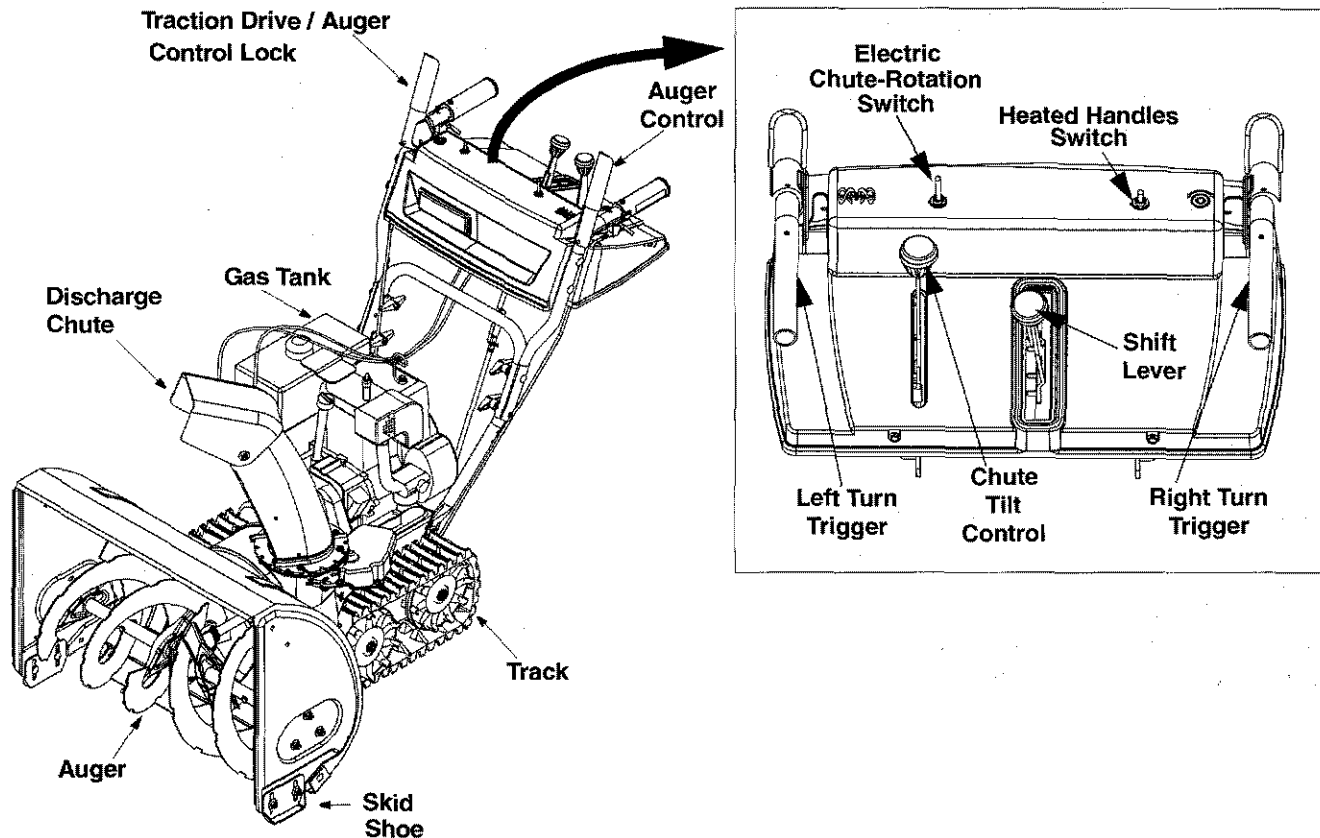

Figure 9
- See Figure 9 to identify all the controls described below.